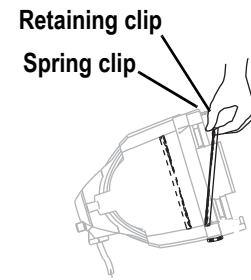

Figure 8
- Step 1: Position the luminaire with the front of the unit (lens side) facing you, and tilted slightly upward. See Figure 8.